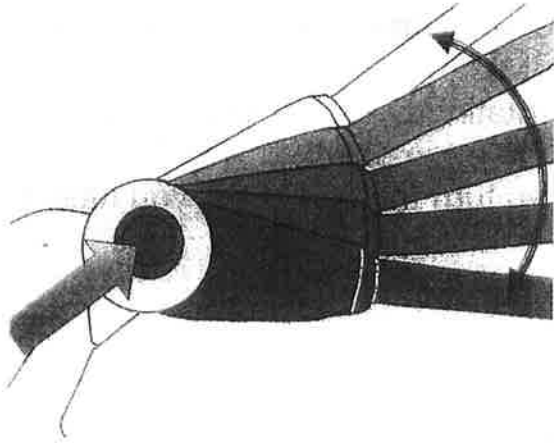

Fig.7
8.3 Adjust the cutting angle (Fig.7)
1. Disconnect the mains plug, Push the rotating knob(7) on the motor housing, and then rotate the housing to the edge position. (Fig.7)